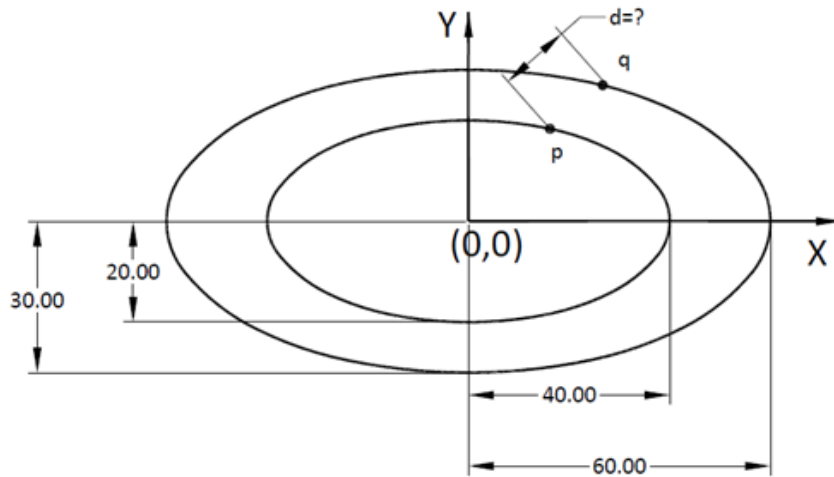

Figure 1
- 4B.** Two ellipses are shown in Figure 1. Two points P and Q are corresponding to the parameter  $u = 60^\circ$  with respect to the X-axis. Using Recursive equation of the ellipse find the distance (d) between P and Q.